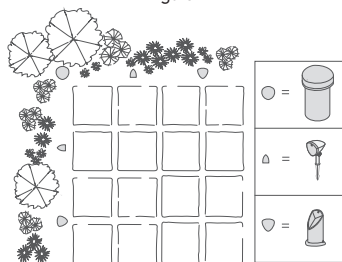

Figure 2
- Combined with Definitive Technology BL Series bollard speakers and/or an LS-80 or LS-100 subwoofer (see Figure 2)